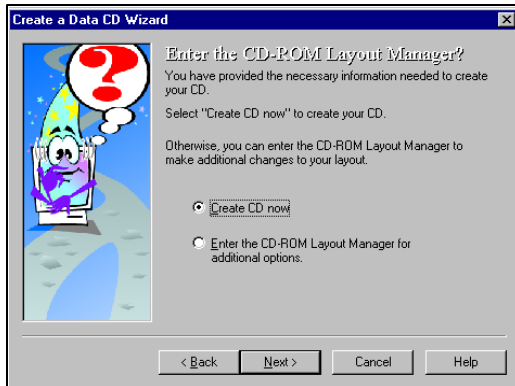

Figure 5
6. At the file selection window, click on the "+" button to open the Explore window for file retrieval. Highlight the desired files and click on the Add button to load the locations into the Hotburn program. Continue using the "+" button until all files are loaded. The selected files will appear in the file selection window. Click on the Next button to continue. See Figures 5 and 6 at the top of the next page.